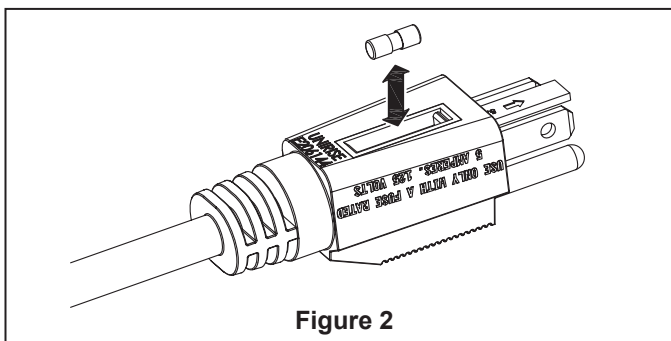

Figure 2
2. Select the desired airflow, located on top of fan by rotating switch clockwise. (Figure 2)
3. Remove the old fuse carefully and replace with a new fuse (Fig. 2).